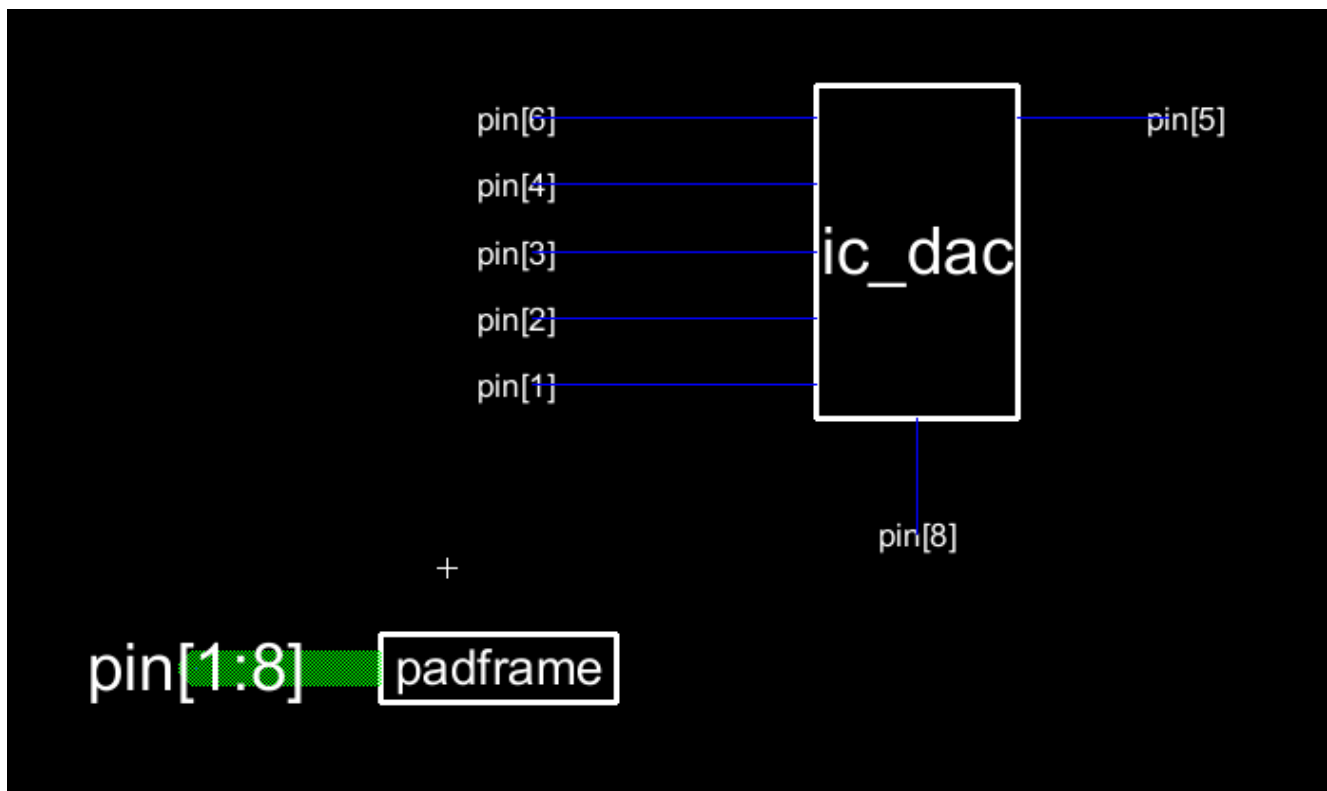

Figure 5.1: DAC IC Schematic and Icon View
- Recalling the DAC IC icon view in Figure 5.1, we have an *odd* way of selecting the DAC I/O to the pins, and that is because of how the 5-bit DAC is layed out.